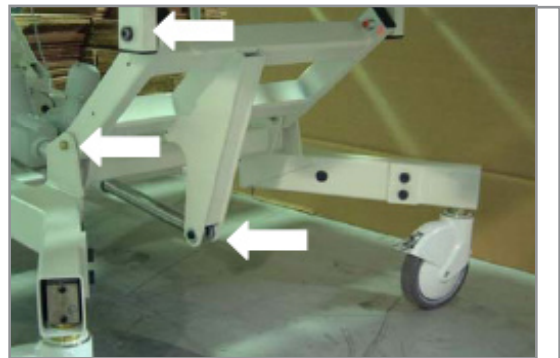

Figure 25
2. Oil hinge points (sample indicated by arrows in Figure 25).